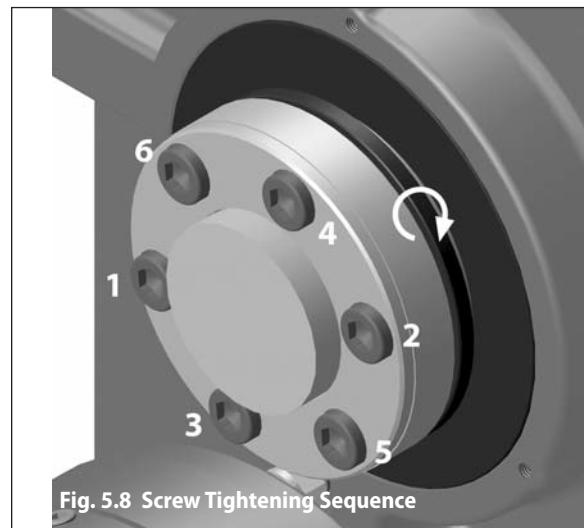

Fig. 5.8 Screw Tightening Sequence
Step 8 – Position unit with the bushing flange located on the outboard side of the unit. Align the bushing with the driven shaft. Slide the unit onto the driven shaft as close to the driven shaft support bearing as possible. Ideally, the driven shaft should extend beyond the bushing flange face (see Fig. 5.8). Refer to Fig. 5.7 and Table 5.14 below for minimum shaft to bushing engagement.
Step 9 – With a torque wrench, gradually tighten the capscrews in 20% increments to engage the bushing system. Use the appropriate tightening pattern ("star-pattern" see Fig. 5.8) to assure complete bushing engagement. Tighten each capscrew to the torque values shown in Table 5.15: